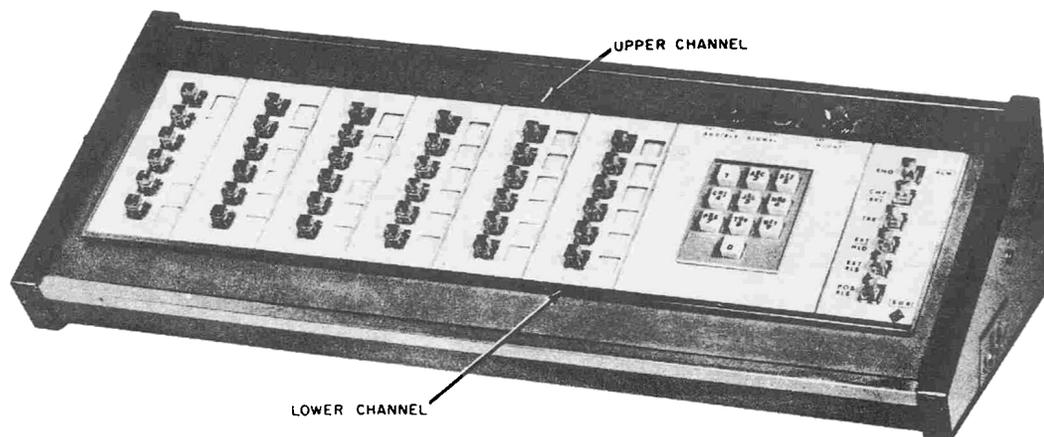
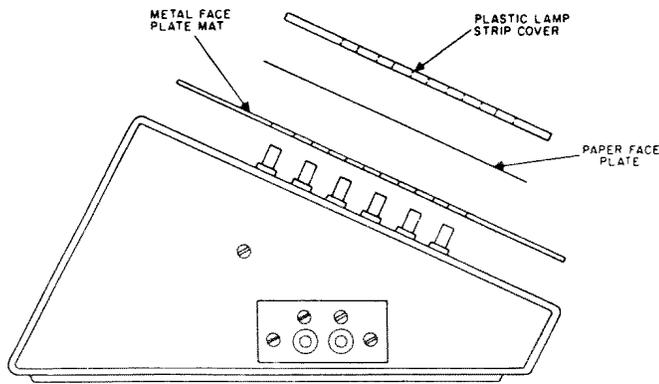

Figure 1. Attendant Turret, Showing Upper and Lower Channels.
Figure 2. Side View of Turret Face Assembly, Showing Order of Assembly.
2.03 Two chrome-plated stainless steel channels hold the plastic lamp strip covers and the paper face plate in place. See Figure 1. The upper channel will slide to the right and up, and the lower channel will slide to the left and down. With the channels slid out of place, plastic lamp strip cover and paper face plate may be removed (Figure 2). Tabs on both sides of the metal face plate fit under the end castings and hold the face plate in place. To remove the metal face plate, first remove the flat head screw located to the left of the keypad. With the screw removed, the metal face plate may be removed by lifting out in the center. This will cause the face plate to bow, allowing the tabs to slide out from under the end casting.